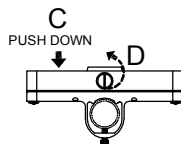

Fig. 4
- > Open the luminaire by slightly pushing down the cover (C) then, twisting the Twist knob (D) counter clockwise as shown in Fig. 4.